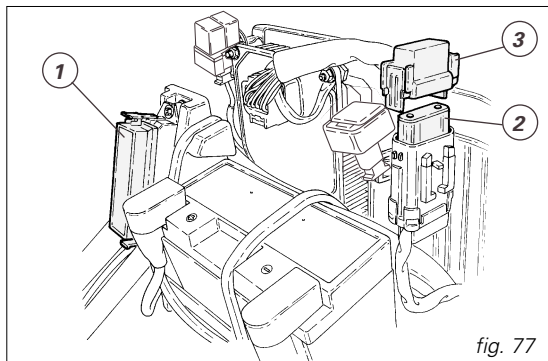

fig. 77
The main fuse box is located on the left side of the battery (fig. 77).
The 40A fuse (2) placed on the RH side of the battery (fig. 77) protects the electronic regulator. Remove the fuse cap (3) to expose it.